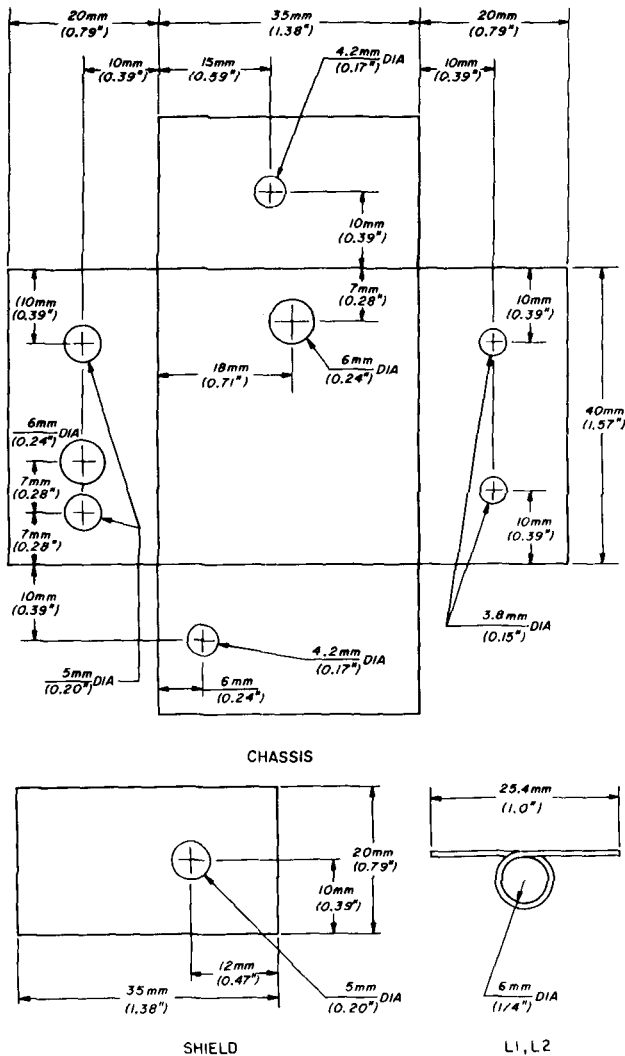

fig. 5. Layout of the low-noise GaAs fet preamp for 432 MHz. The enclosure is made from brass sheet, 0.028"–0.048" (0.7–1.2mm) thick.
- L1, L2 1 turn no. 20 (0.8mm), 1/4" (6mm) ID (see fig. 5)
Basic construction of the low-noise 432-MHz preamplifier is shown in fig. 5. The enclosure is made from no. 18 to no. 22 (0.028-0.048 inch or 0.7-1.2mm thick) brass sheet. Do not omit the center shield — it's absolutely necessary to obtain stable operation.